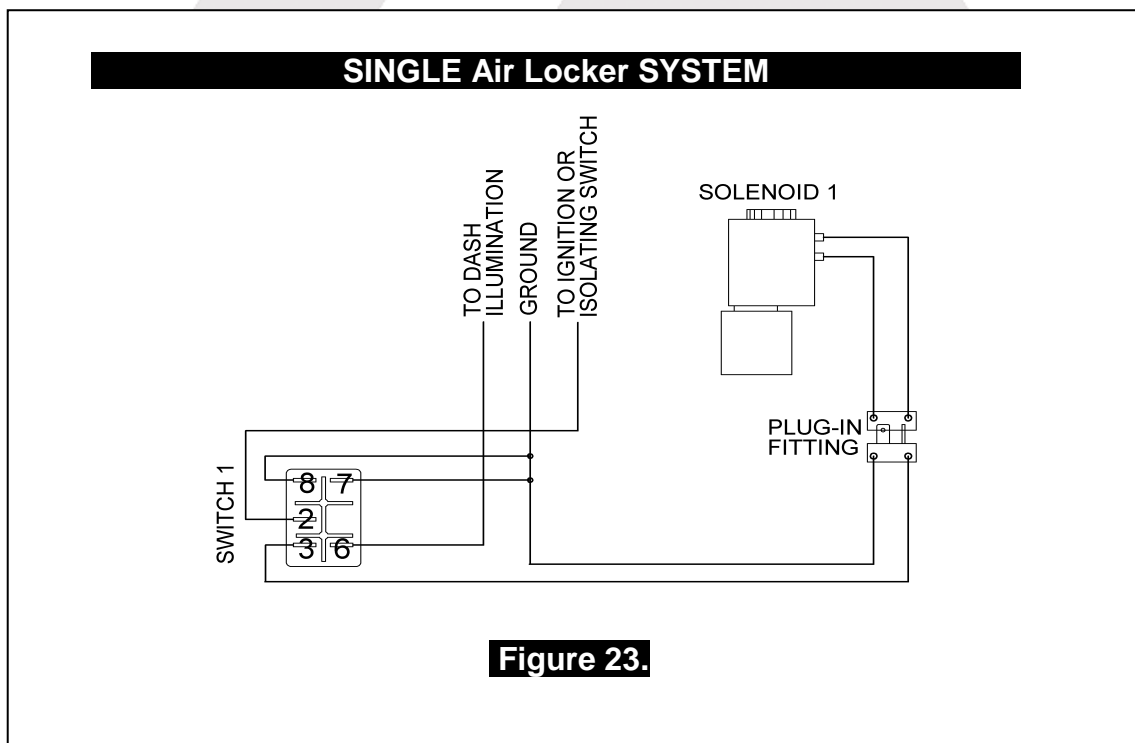

Figure 23.
When connecting the actuation switch to an alternate air source, the switch(es) should be wired according to figures 23. and 24. depending on whether one or two *Air Lockers* will be installed in the vehicle.
- If only one *Air Locker* is to be installed in the system, the switch and solenoid should be wired according to figure 23. regardless of whether the *Air Locker* has been installed in the front or rear axle of the vehicle.